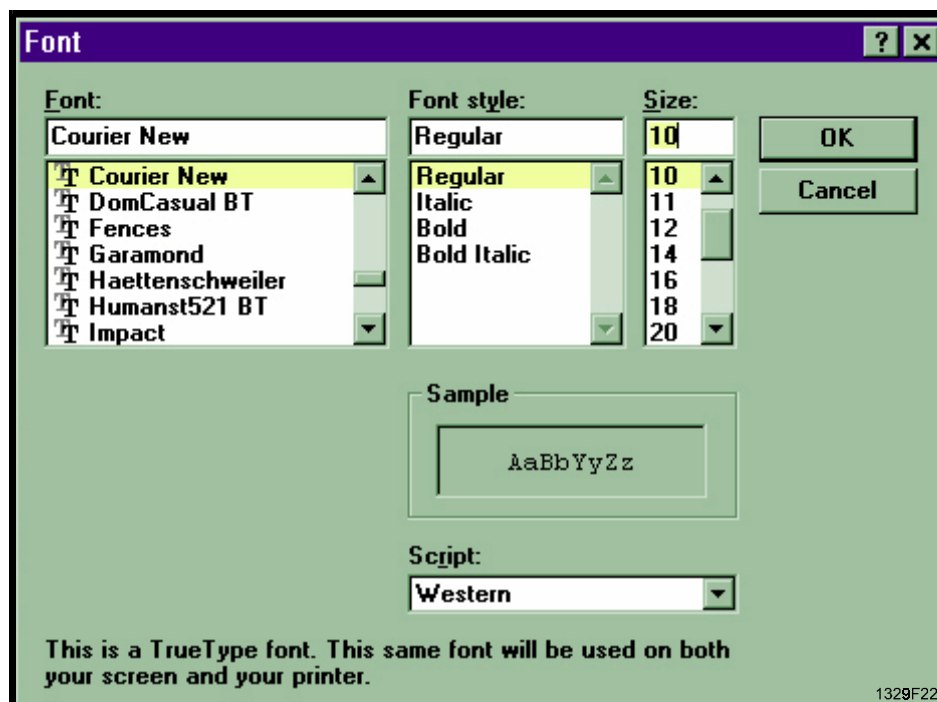

Figure 28: Font, Style, Size (X1/X3)
2. **Font, Style, Size** - Click on "FONT, STYLE, SIZE" in the Print menu. The Font, Style, Size screen displays (Figure 28).